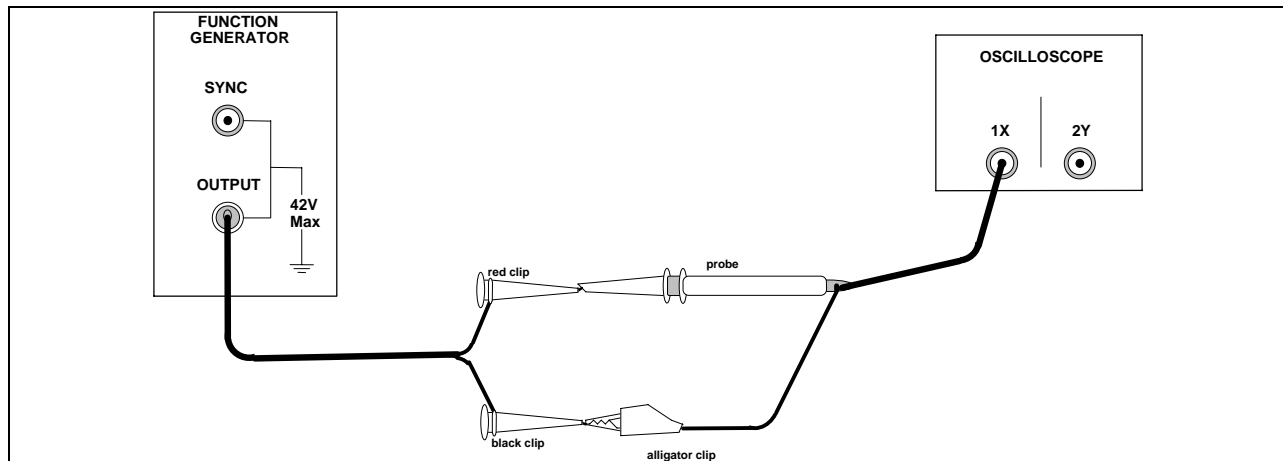

Figure 14. Connecting the function generator to the oscilloscope
- a. Connect the output of the function generator to the input channel 1 of the oscilloscope as shown in Figure 14.